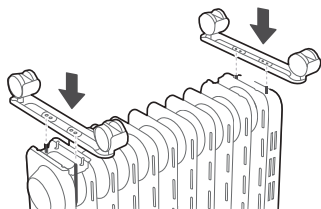
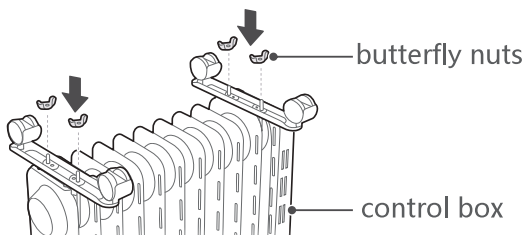

figure 1
figure 2
2. As shown in figure 1, align the mounting hole of a set of caster assembly and install it on the screw of the caster pad plate at the end of the radiator fin, and The other caster assembly is aligned to the screws mounted at the bottom of the control box.
- 3, As shown in figure 2, two sets of caster components are tightened with four butterfly nuts. Install solid and then put the heater in place-just put the wheels on the ground.
1将取暖器机身倒置，底部朝上。如图1所示，将一套脚轮组件的安装孔对准并安装在散热片尾部的脚轮垫板的螺杆上；另外一套脚轮组件对准安装在控制箱底部的螺钉上。23如图2所示，用四个蝶形螺母分别将两套脚轮组件拧紧。安装牢靠后再将取暖器放正，轮子着地即可。